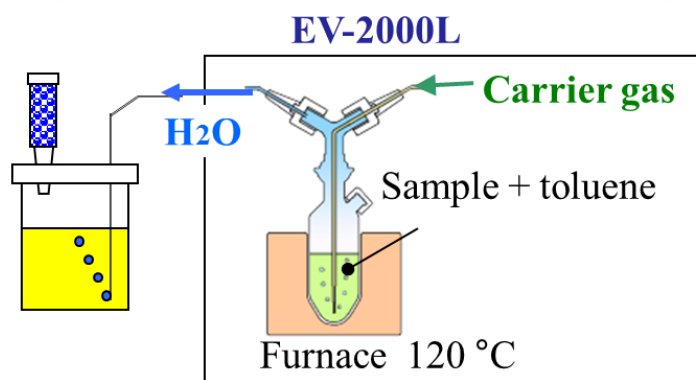
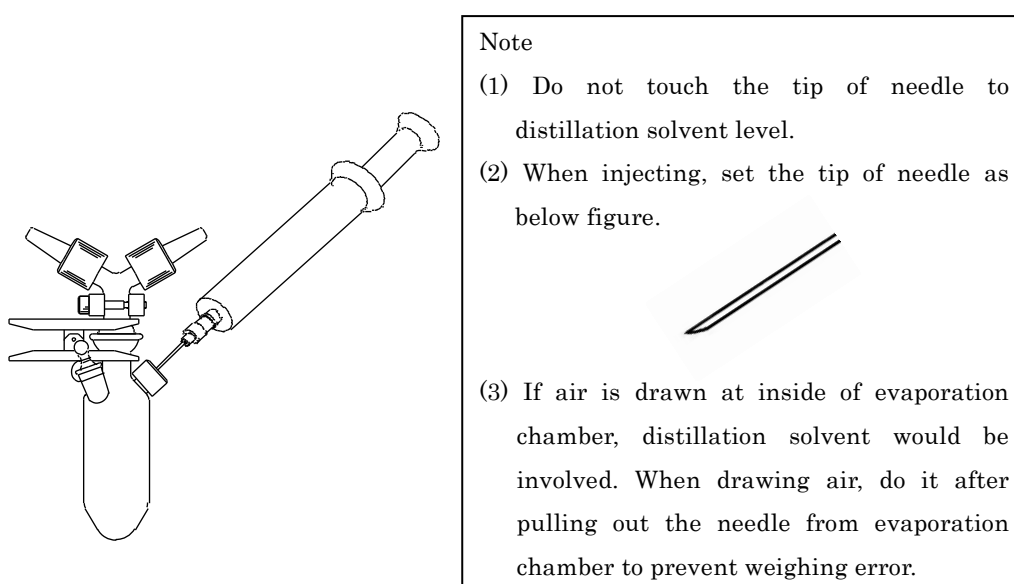

Fig.3.3. Schematic diagram of azeotropic distillation method.
Fig.3.4. Sample injection into evaporation chamber.
- (2) Start blanking to attain stable background.
- (3) Connect electrolytic cell and evaporation chamber with tube. Flow carrier gas with 50 mL/min.
- (4) Fill 5 mL of distillation solvent in evaporation chamber and heat the chamber at 120 °C.
- (5) Keep blanking to attain stable background with carrier gas flowing into electrolytic cell.
- (6) Wash the syringe with sample.
- (7) Draw the sample into syringe and then weigh the syringe.
- (8) Inject sample from rubber septum of distillation chamber as shown in Fig.3.3 and Fig.3.4.
- (9) Start titration. Measurement parameter is shown in Table 4.2.
- (10) Weigh the syringe again and then set the difference of weight to sample size.